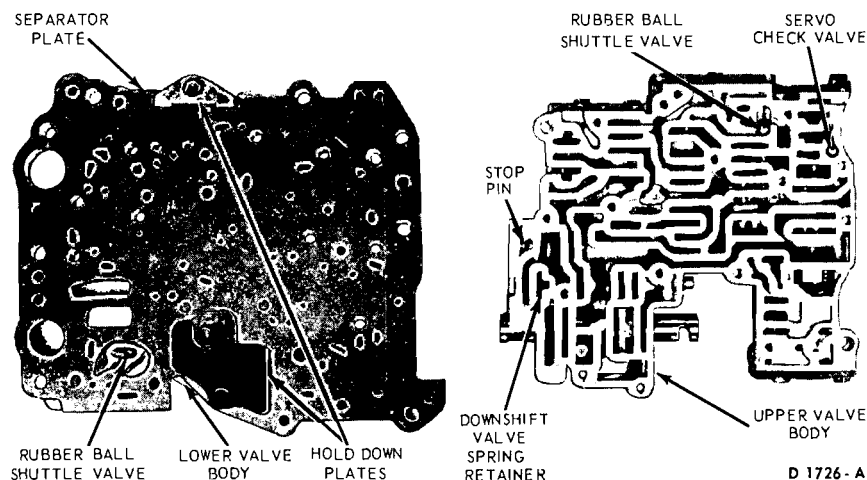

FIG. 70—Separating Upper and Lower Valve Bodies
2. Remove the lower valve body attaching screws and separate the lower valve body, separator plate, gasket and hold-down plates (Fig. 70) from the upper valve body. Be careful not to lose the check valves and spring when separating the upper and lower valve bodies.
1. Place the check valve in the lower body as shown in Fig. 70. Posi-
16. Position a new rubber check valve in the upper valve body (Fig. 70).
17. Position the check valve and spring in the upper valve body (Fig. 70). Place a new gasket, separator plate and the lower valve body in place on the upper valve body and secure them with the attaching screws. Torque the screws to specifications.